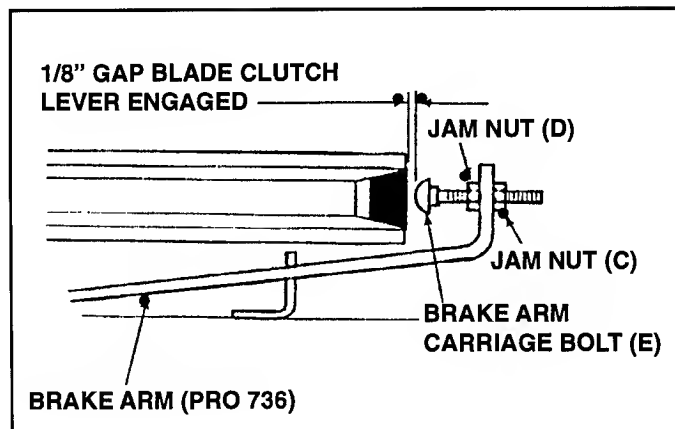

FIGURE 5.14
D. Tighten Jam Nut (C). (See Figure 5.14).